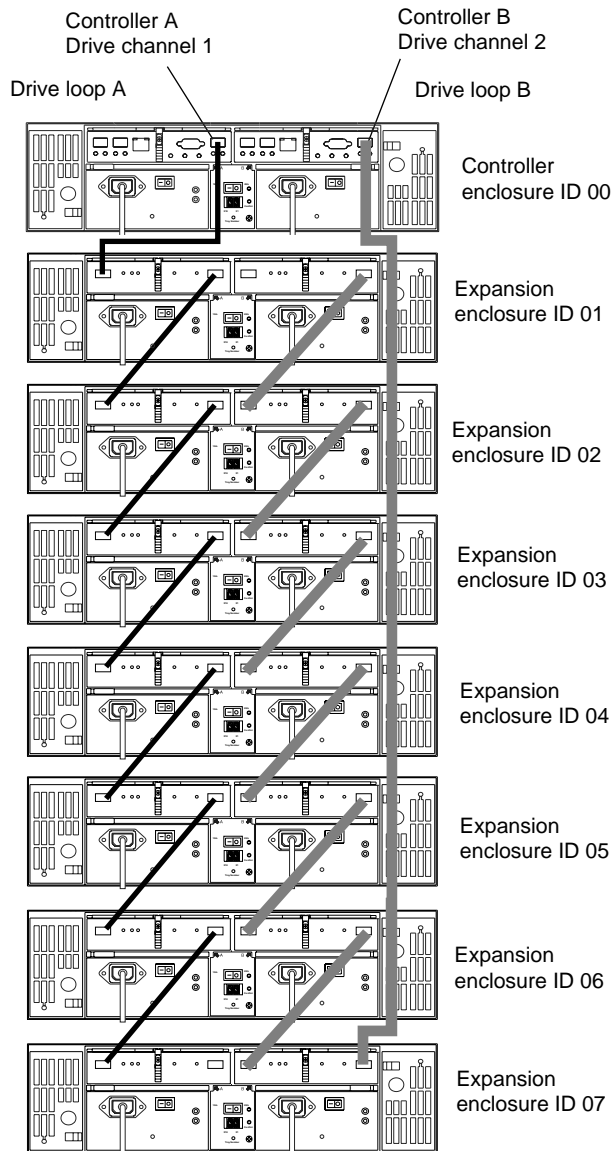

Figure 5-3 Drive Loop Cabling for Systems with Eight Enclosures
- Repeat step 3 to add up to seven expansion enclosures to the drive loop (see Figure 5-3).